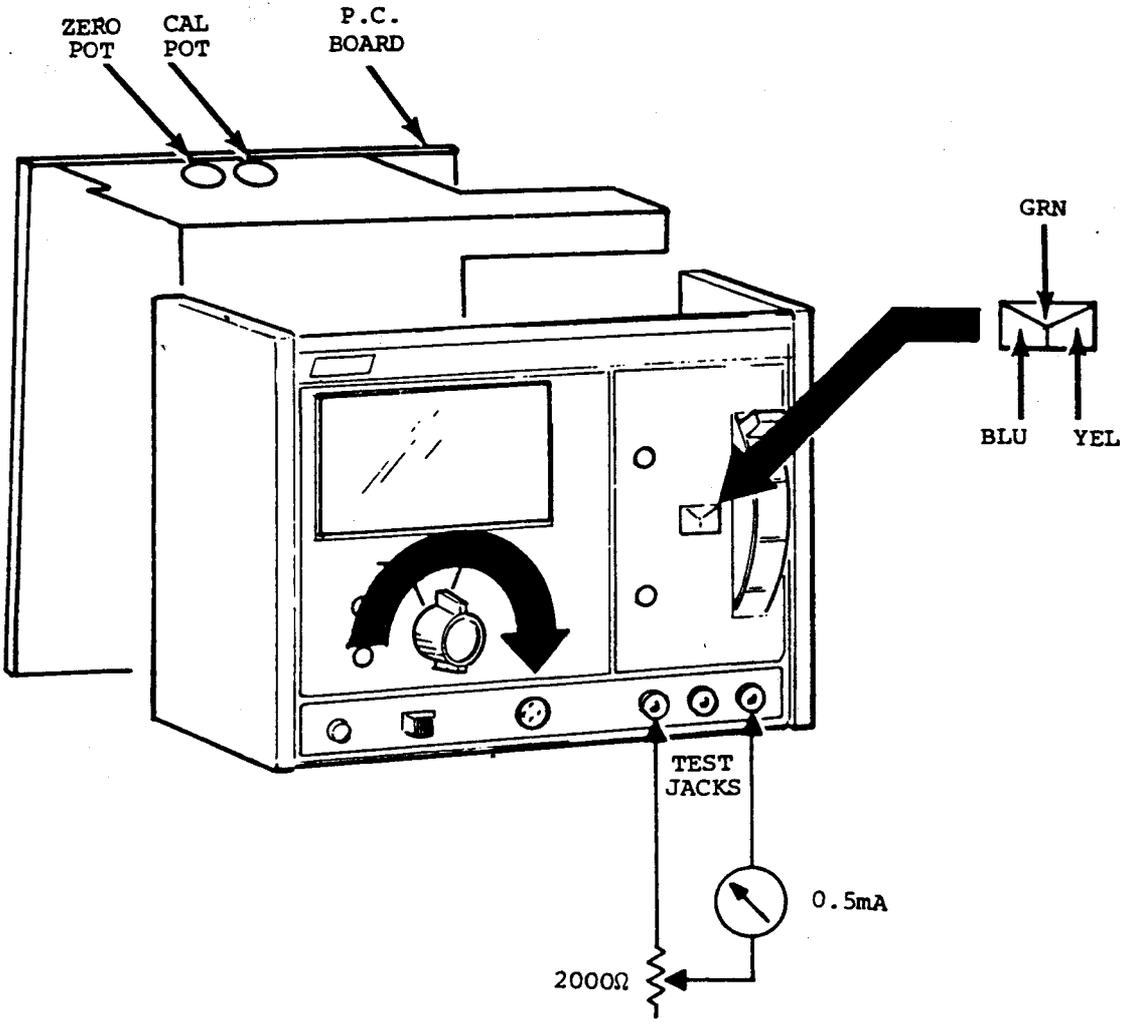

Fig. 3. Location of calibrating controls.
- c. To calibrate the meter, put the TEST switch in the uppermost (green) position. Connect a 2000Ω potentiometer and a 0-5mA meter in series from the yellow jack to the blue jack as in Fig. 3. Then, while holding the FUNCTION switch in the LEAKAGE position, adjust the potentiometer for 5 milliamperes in the external meter. If the meter on the 520 panel does not read full scale, adjust the "CAL" control through the right side hole in the top of the chassis. The CAL pot is identified on the P.C. board just below the adjustment hole. See Fig. 3.